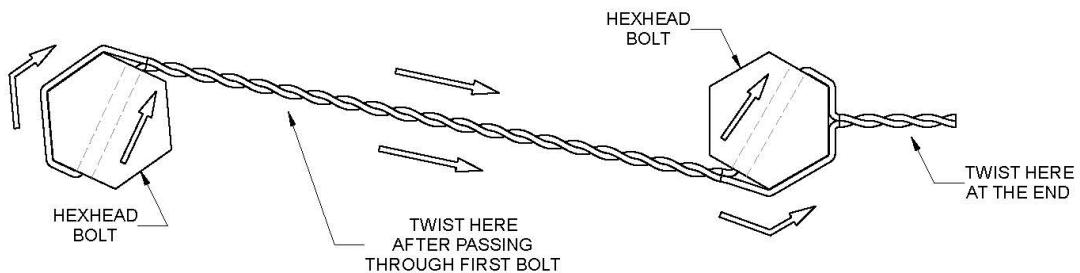

Figure 2
- ▶ Tighten all insert retainer screws. Then tighten the riser setting plate bolts leaving approximately 1/16 inch play between the riser slip setting ring and its corresponding insert retainer plate as provided by the bushing. (Important: all setting plate bolts and insert retainer screws retaining the slip setting ring and insert retainers must be secured with safety wire to keep them from backing out. Stainless Steel 3/32" safety wire is recommended). (**See Figure 2**)